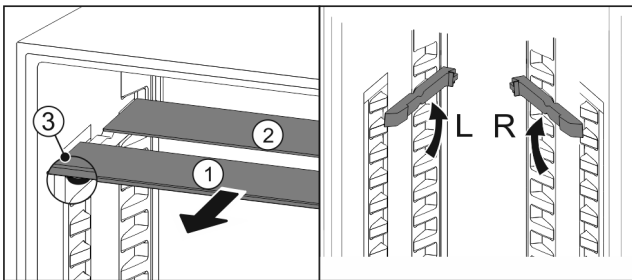

Fig. 105
- ▶ Pull the glass panels out Fig. 105 (1) from the front, one at a time.
- ▷ The glass panel Fig. 105 (1) and trim strip are at the front.
- ▷ The stops Fig. 105 (3) point down.